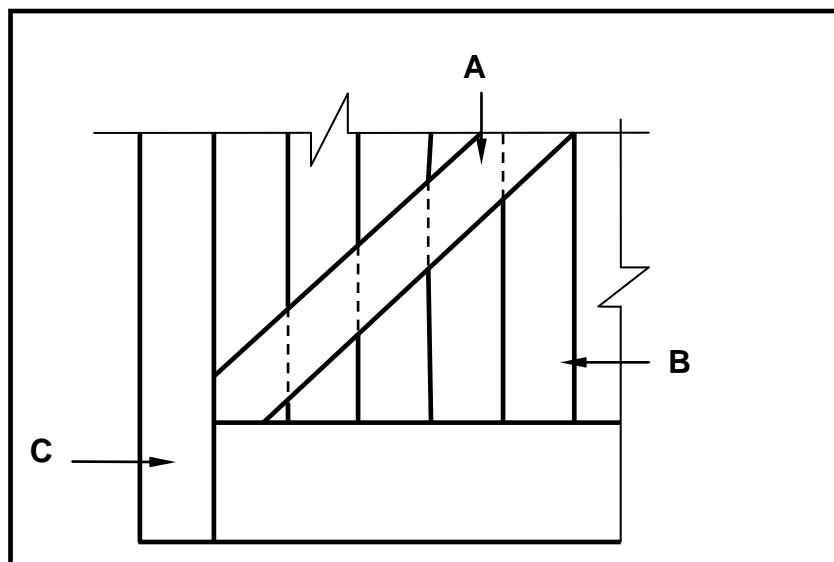

FIGURE 6.9
- 6.9 Study FIGURE 6.9 below which shows the inside bottom corner of a framed ledge and braced batten door. Identify members **A** to **C**.